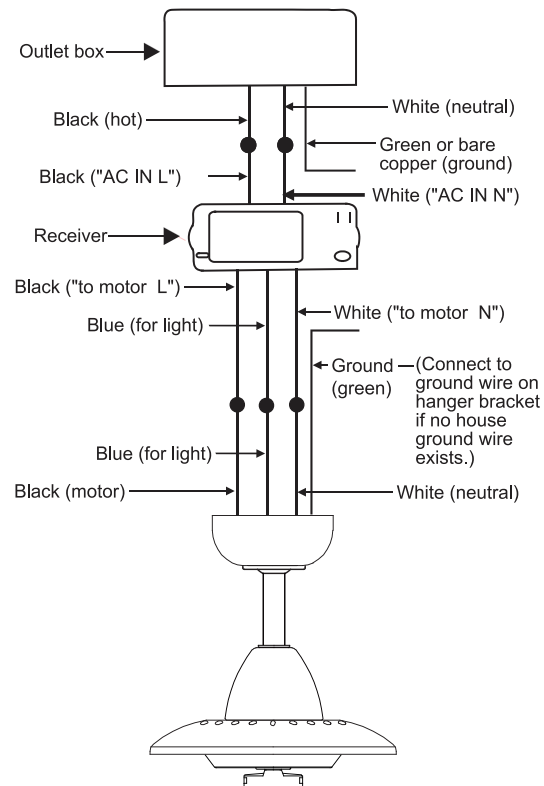

Fig. 13
Step 2. Motor to Receiver Electrical Connections: (Fig. 13) Connect the black wire from the fan to the black wire marked "TO MOTOR L" on the receiver. Connect the white wire from the fan to the white wire marked "TO MOTOR N" on the receiver. Connect the blue wire from the fan to the blue wire marked "FOR LIGHT" on the receiver. Secure all the wire connections with the plastic wire nuts provided.
Step 3. (Fig. 13) Receiver to House Supply Wires Electrical Connections: Connect the black (hot) wire from the ceiling to the black wire marked "AC in L" from the receiver. Connect the white (neutral) wire from the ceiling to the white wire marked "AC in N" from the Receiver. Secure the wire connections with the plastic wire nuts provided.
Step 4. (Fig. 13) If your outlet box has a ground wire (green or bare copper) connect it to the fan ground wires; otherwise connect the hanging bracket ground wire to the mounting bracket. Secure the wire connection with a plastic nut provided. After connecting the wires, spread them apart so that the green and white wires are on one side of the outlet box and black and blue wires are on the other side. Carefully tuck the wire connections up into the outlet box.